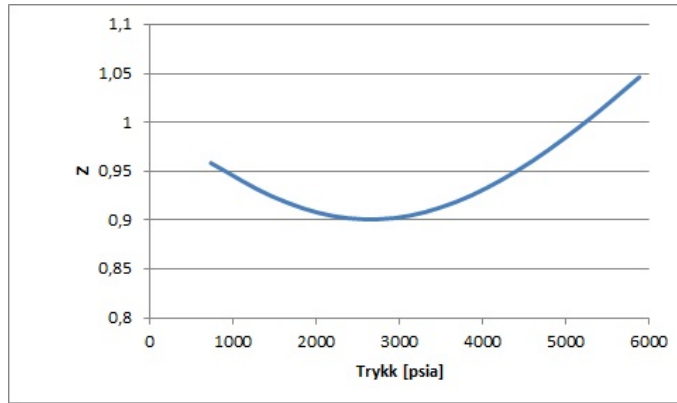

Figure 2
1. If the temperature of the gas is increased somewhat with respect to the gas shown in Figure 2, how would then the curve $Z(p)$, in the figure above be drawn?
4. Based on the function $Z(p)$ in Figure 2, explain and describe using the figure, how the correction term in the equation above can be calculated.